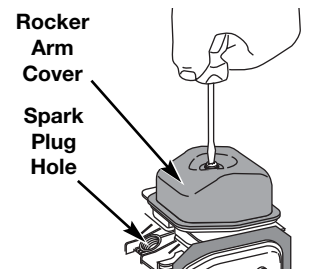

Fig. 33
7. Clean dirt from around the rocker arm cover. Remove the screw holding the rocker arm cover with a large flat blade screwdriver or Torx T-25 bit (Fig. 33). Remove the rocker arm cover and gasket.
- The piston is at the top of its travel while looking in the spark plug hole (Fig. 33)